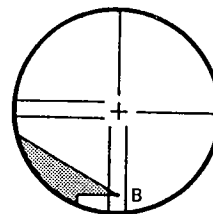

Fig. 112
- 2) Turn the telescope slowly upward with the vertical fine motion ⑫ until the target slides to the lower part B, Fig. 112. If the target is still bisected by the vertical line, no adjustment is necessary.